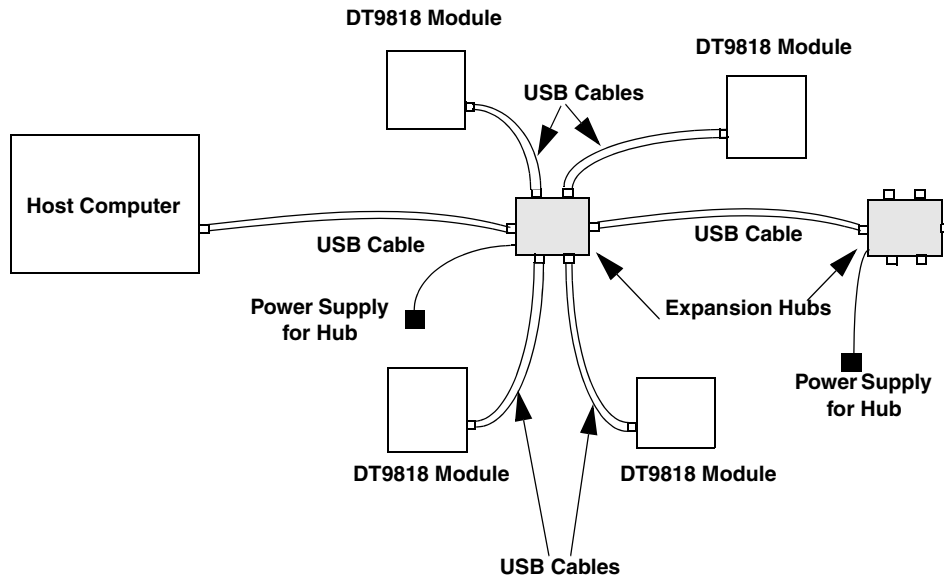

Figure 3: Attaching Multiple DT9818 Modules Using Expansion Hubs
- Repeat these steps until you have attached the number of expansion hubs and modules that you require. Refer to Figure 3.